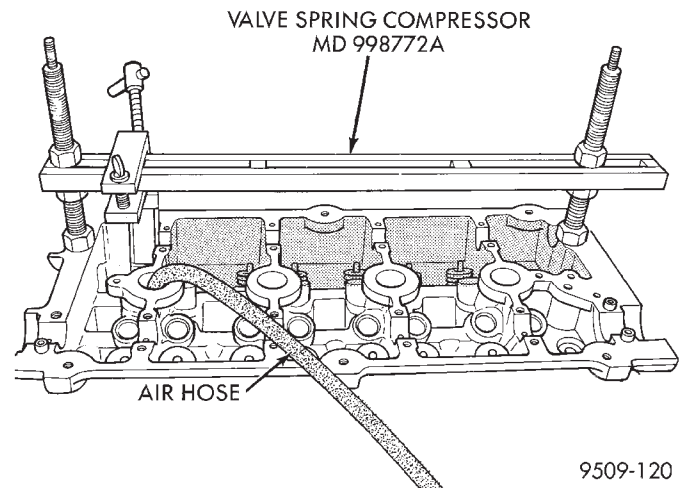

Fig. 43 Valve Spring—Removal/Installation
(1) Remove camshafts as previously outlined in this section.
(2) Rotate crankshaft until piston is at TDC on compression.
(3) With air hose attached to adapter tool installed in spark plug hole, apply 90-120 psi air pressure.
(4) Using Special Tool MD-998772-A with adapter 6779 (Fig. 43) compress valve springs and remove valve locks.
(5) Remove valve spring.
(6) Remove valve stem seal by a using valve stem seal tool.
(2) Install valve spring and retainer, use Special Tool MD-998772-A with adapter 6779 to compress valve springs only enough to install locks (Fig. 43). Correct alignment of tool is necessary to avoid nicking valve stems.
(3) Remove air hose and install spark plugs.
(4) Install camshafts as previously outlined in this section.